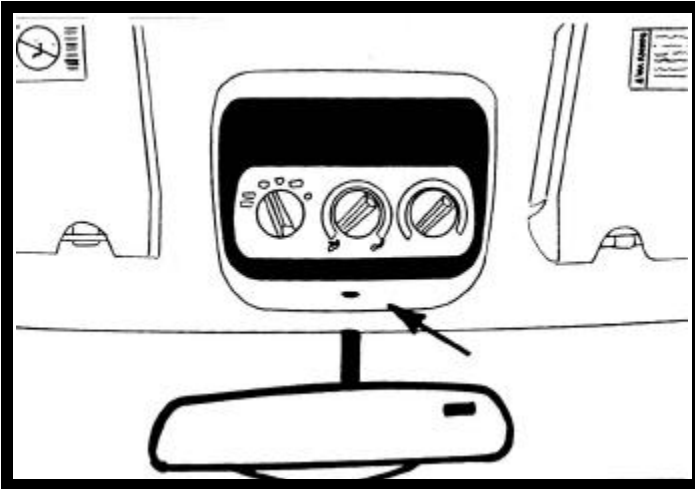

FIGURE 1
1. Remove the O.E.M. console mounted to inner roof of vehicle. Remove and discard (1) one screw from recess in front of console near rear view mirror. Disconnect wire harness and remove console from vehicle. Use care not to damage A/C control head. See Figure 1.